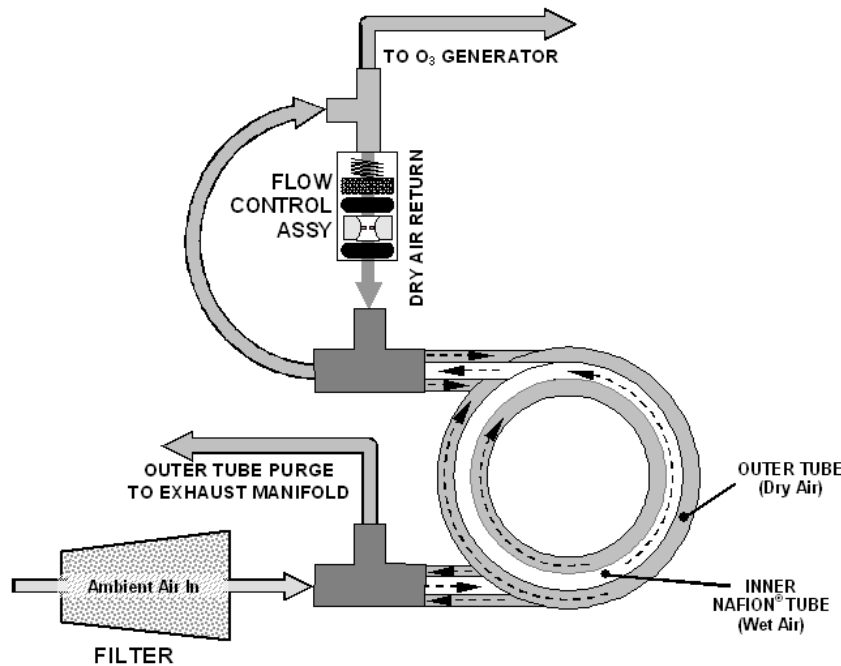

Figure 10-8: TML41 Perma Pure® Dryer
To provide a dry purge gas for the outer side of the Nafion tube, the TML41 returns some of the dried air from the inner tube to the outer tube (Figure 10-8). When the analyzer is first started, the humidity gradient between the inner and outer tubes is not very large and the dryer's efficiency is low at first but improves as this cycle reduces the moisture in the sample gas and settles at a minimum humidity.
- Permapure ozone air dryer, purge flow control (Figure 10-8)
- Permapure sample or combo dryer (if installed), purge flow control (Figure 10-8)